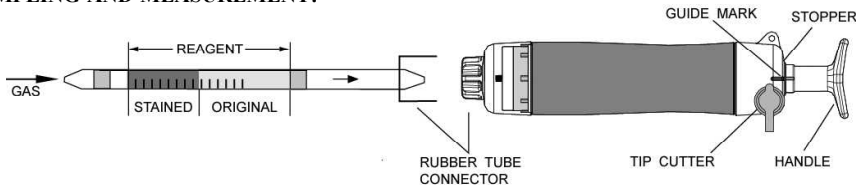

Fig.1
- ② Insert the detector tube into aspirating pump securely as shown in Fig.1. (Arrow mark shall point to the pump.)
- ③ Align the guide marks on the shaft and stopper of the aspirating pump.
- ④ Pull the pump handle at full stroke until it locks and wait for 1 minute or until the completion of sampling is confirmed with the flow indicator of the pump (See descriptions about the flow indicator in the instructions of the pump).
- ⑤ Push the handle without removing the detector tube from the inlet, and air in the pump will be discharged perfectly. Then repeat the step ④ two times.
- ⑥ On completion of sampling, read the scale at the maximum point of the stained layer.
- ⑦ In case of 6 pump strokes, repeat above pulling and pushing procedures another 3 times after above step ⑤. And multiply the reading value corrected with the undermentioned CORRECTION FOR AMBIENT CONDITIONS, by 1/2.
- ⑧ In case of 9 pump strokes, repeat above pulling and pushing procedures another 6 times after above step ⑤. And multiply the reading value corrected with the undermentioned CORRECTION FOR AMBIENT CONDITIONS, by 1/3.